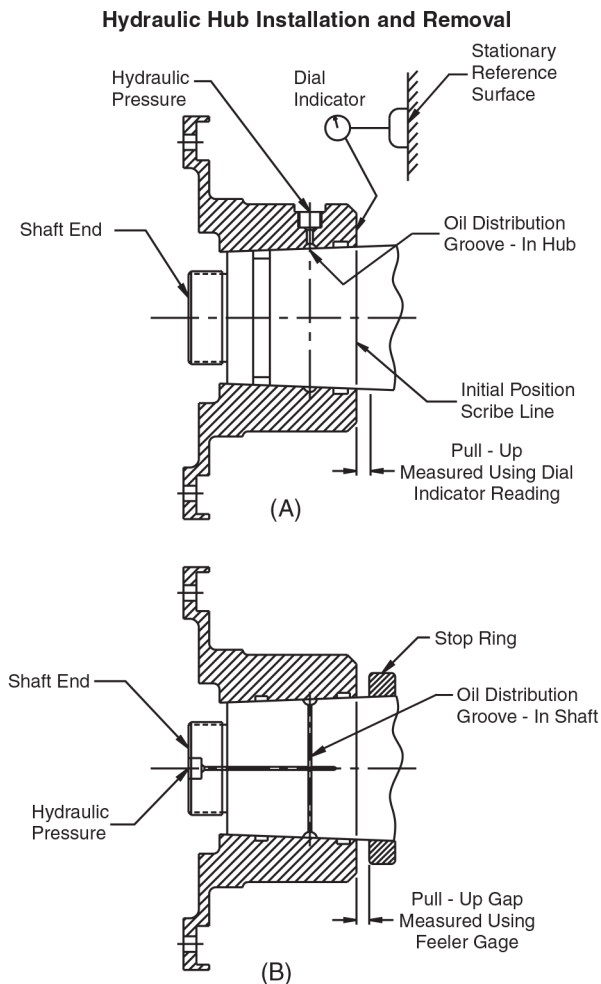

Figure 1
- For an approximate reference point, blue the end of the shaft and scribe a line at the initial position as shown in Figure 1(A).
3.2.1 Dial Indicator Method – Locate a stable, flat stationary surface in proximity to the hub end upon which a magnetic base dial indicator can be mounted (reference Figure 1(A)). Set up the indicator to measure axial movement of the hub which will provide a direct and accurate reading of the desired pull-up.
3.2.2 Stop Ring Method – In this method a gap, corresponding to pull-up, is established between the end of the hub and a stop ring mounted on the shaft (reference Figure 1(B)). In this instance, feeler gages are used to accurately establish the pull-up distance. The stop ring or split collar (whichever may be used) should never be relied upon to act as a positive stop because mounting tool forces may exceed the resistive force of the ring.
Note: Location of hub dilation pressure inlet, oil distribution groove and o-ring arrangement varies as shown in Figure 1.